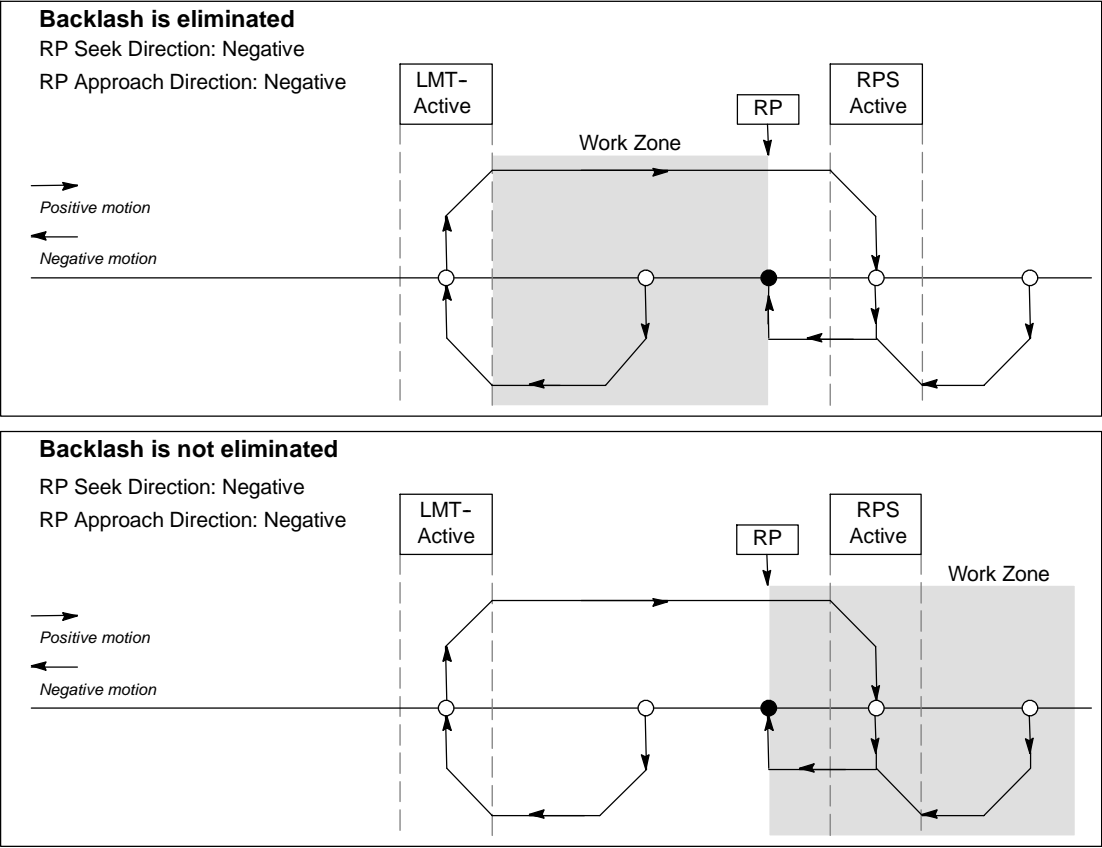

Figure 9-25 Placement of the Work Zone with and without the Elimination of Backlash
Figure 9-25 shows the work zone in relationship to the reference point (RP), the RPS Active zone, and the limit switches (LMT+ and LMT-) for an approach direction that eliminates the backlash. The second part of the illustration places the work zone so that the backlash is not eliminated. Figure 9-25 shows RP seek mode 3. A similar placement of the work zone is possible, although not recommended, for each of the search sequences for each of the other RP seek modes.